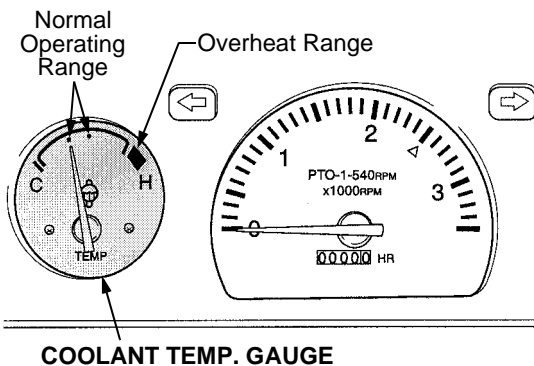

Figure 10
3. Coolant Temperature Gauge - Indicates the temperature of the engine coolant. Monitor the gauge to allow the engine to warm up when first starting the tractor. Do not operate the tractor under load before the temperature gauge indicates the proper temperature. Monitor the gauge to protect against overheating the engine (the red section on the temperature gauge indicates overheating). See Figure 10.